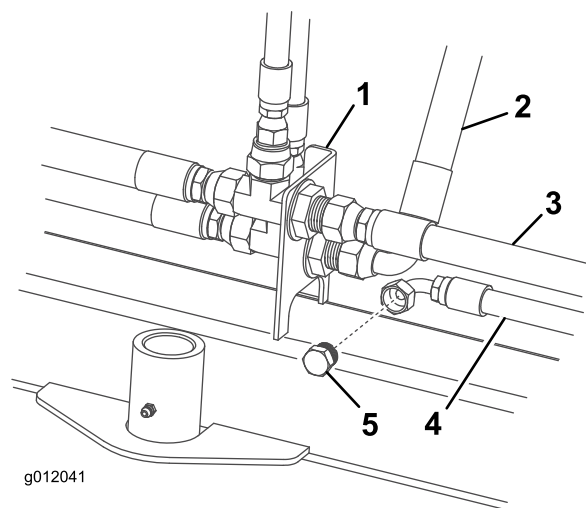
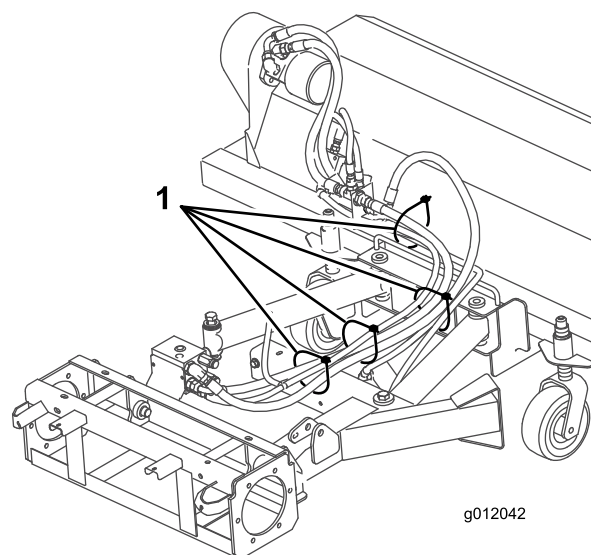

Figure 14
Figure 15
4. Secure hydraulic hoses with (4) cable ties as shown in Figure 15. Space wire ties along length of hoses.
3. Route and connect the traction unit hoses (Figure 14 and Figure 15) to the broom bulkhead fittings as follows: